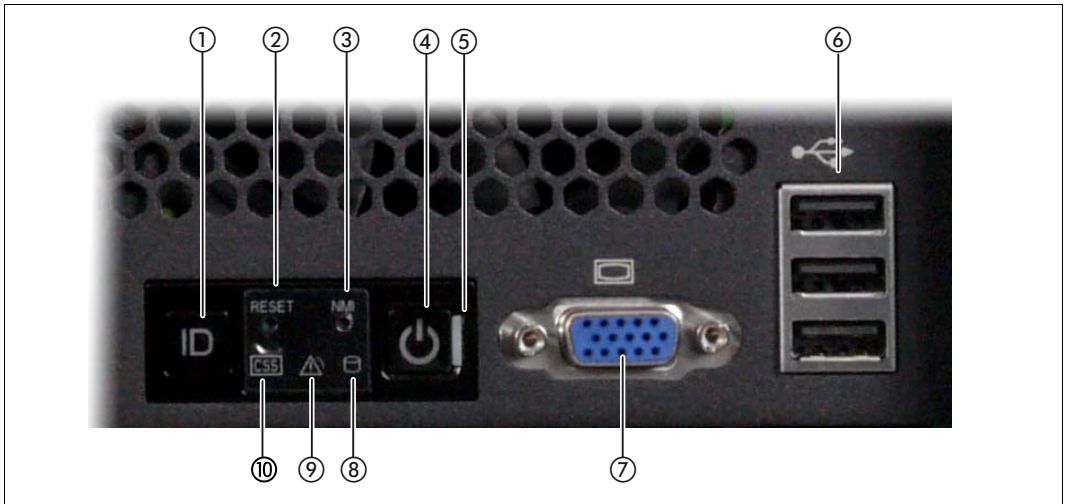

Figure 2: Front - Detailed view: Operating panel
Before the Server Unit is switched on, the status indicator lights up green (item 5 in figure 2 on page 10).
Before the Server Unit is switched off, the On/Off switch / status indicator lights up green, and after the Server Unit has been switched off it no longer lights up (item 4 in figure 2 on page 10).
The "Power cable connected" status indicator (item 5 in figure 2 on page 10) lights up green when the server is switched off but connected to the power supply (power cable connected).
4	Operating panel (for further details see figure 2 on page 10)